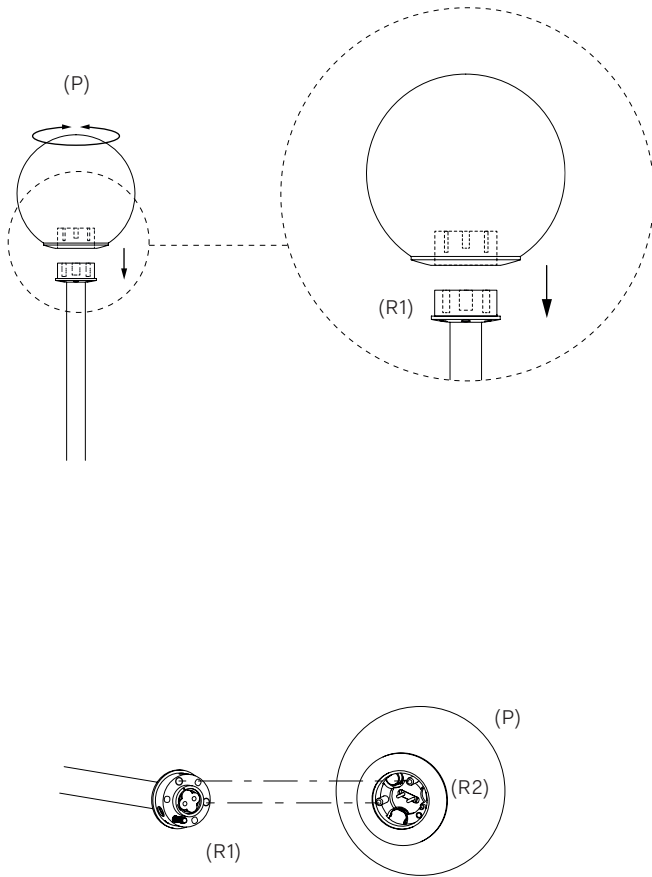

Fig. 16
Secure the Small Glass Sphere 1 (P) with the supplied M2×8 screw, ensuring it is tight. See Fig. 15 and Fig. 16.